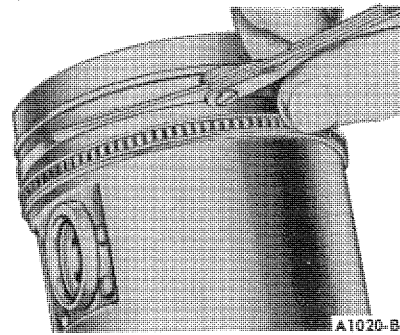

FIG. 34 Checking Piston Ring Slide Clearance
6. Check the ring side clearance of the compression rings with a feeler gauge inserted between the ring and its lower land (Figure 34). The gauge should slide freely around the entire ring circumference without binding. Any wear that occurs will form a step at the inner portion of the lower land. **If the lower lands have high steps, the piston should be replaced.**